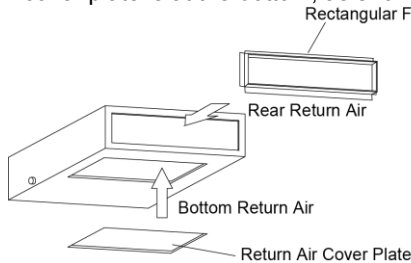

Fig. 4.35
(2). The default installation location of the rectangular flange is at the back and the return air cover plate is at the bottom, as shown in Fig. 4.35 .